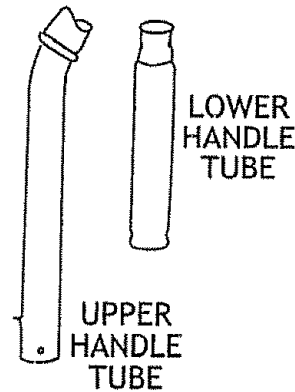
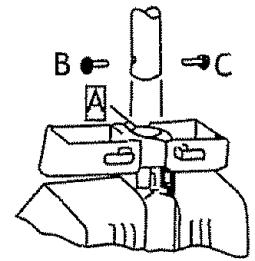
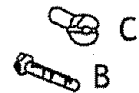

FIG. 1
FIG. 2
FIG. 3
1. Place lower handle tube (Fig. 1) into handle tube socket "A" (Fig. 2). Fasten using bolt "B" and internally threaded nut "C" (Fig. 3) provided in the hardware package.
2. Place upper half handle tube (Fig. 1) over lower half. Align holes and fasten with remaining bolt "B" and internally threaded nut "C".